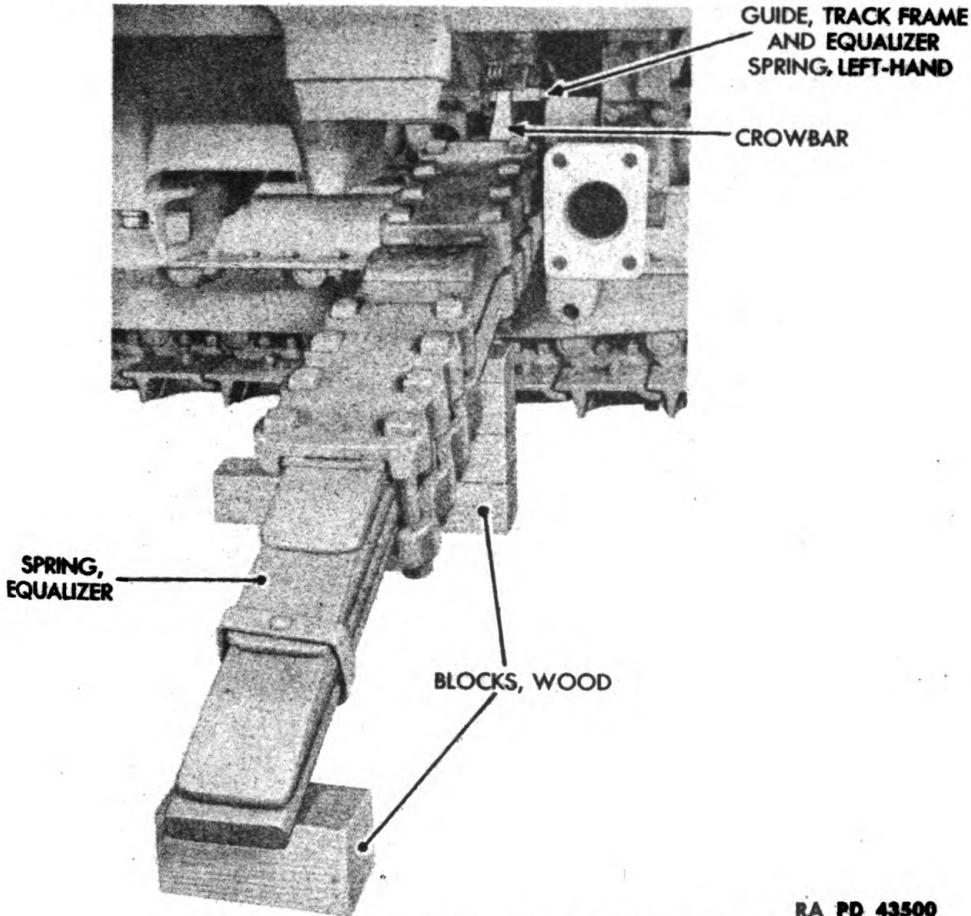

Figure 134 — Equalizer Spring Removal
(4) REMOVE EQUALIZER SPRING (fig. 134).